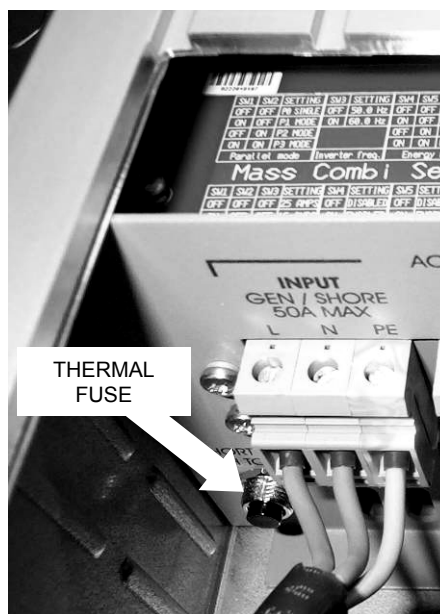

Figure 12: Reset of the thermal fuse
- 5 Wait for at least two minutes and then reset the thermal fuse by pushing the button inside the connection compartment (see figure 12).